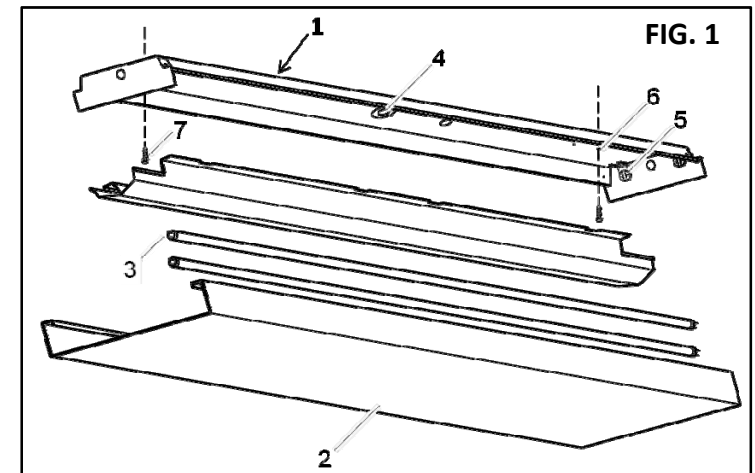

FIG. 2
4. With the power off, insert the black supply wire into the black side of the quick connector. Connect the white supply wire to the white side of the quick connector. Connect the white battery connectors together. Use a wire nut to connect the black battery wire to the black fixture wire. [FIG. 2]
6. Insert the black ON/OFF switch wire into the black side of the quick connector. [FIG. 2]